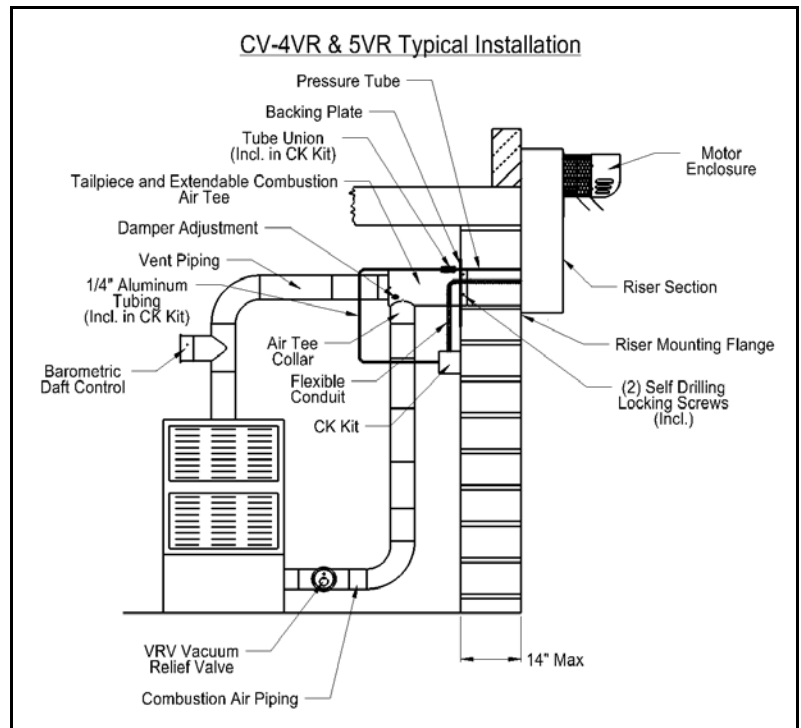

Figure 9
1. For appliances constructed with a combustion air inlet connection that do not come equipped with means of either (a) providing the burner with an alternate source of combustion air in the event of blockage, or (b) safely preventing combustion in the event of a blockage: install a Field Controls Vacuum Relief Valve, model VRV (sold separately), in the combustion air piping from the air tee collar to the appliance inlet connection, following the installation instructions included with the VRV (See Figure 9). This will allow combustion air to be drawn from within the structure (or a safe shutdown) if the venter inlet becomes blocked.